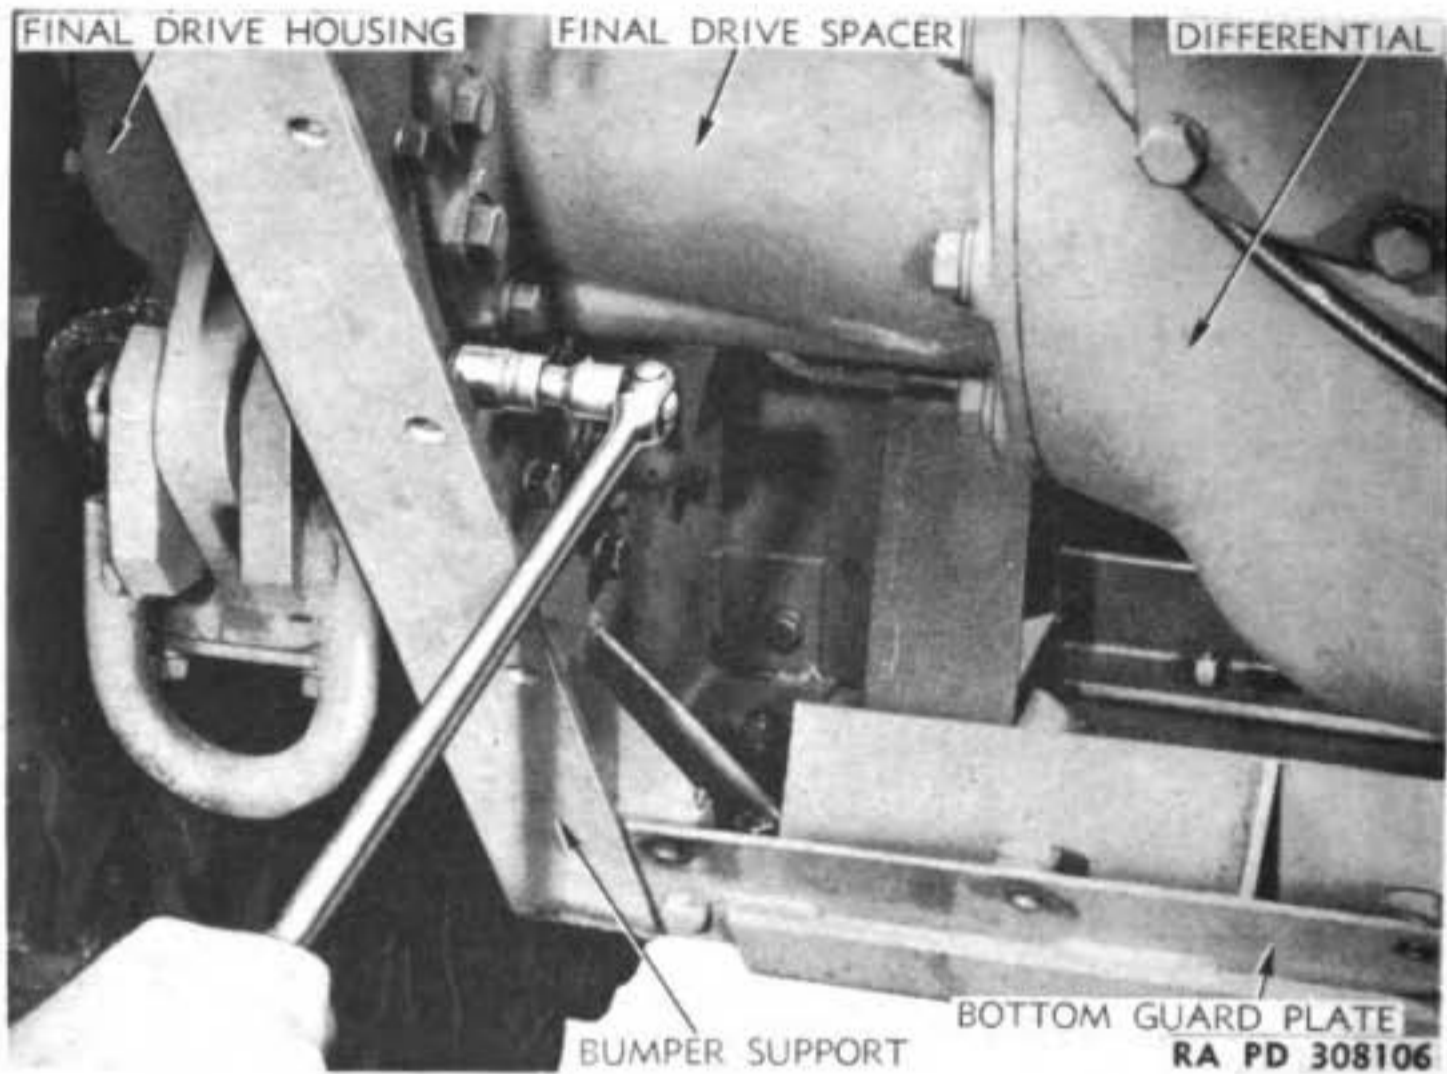
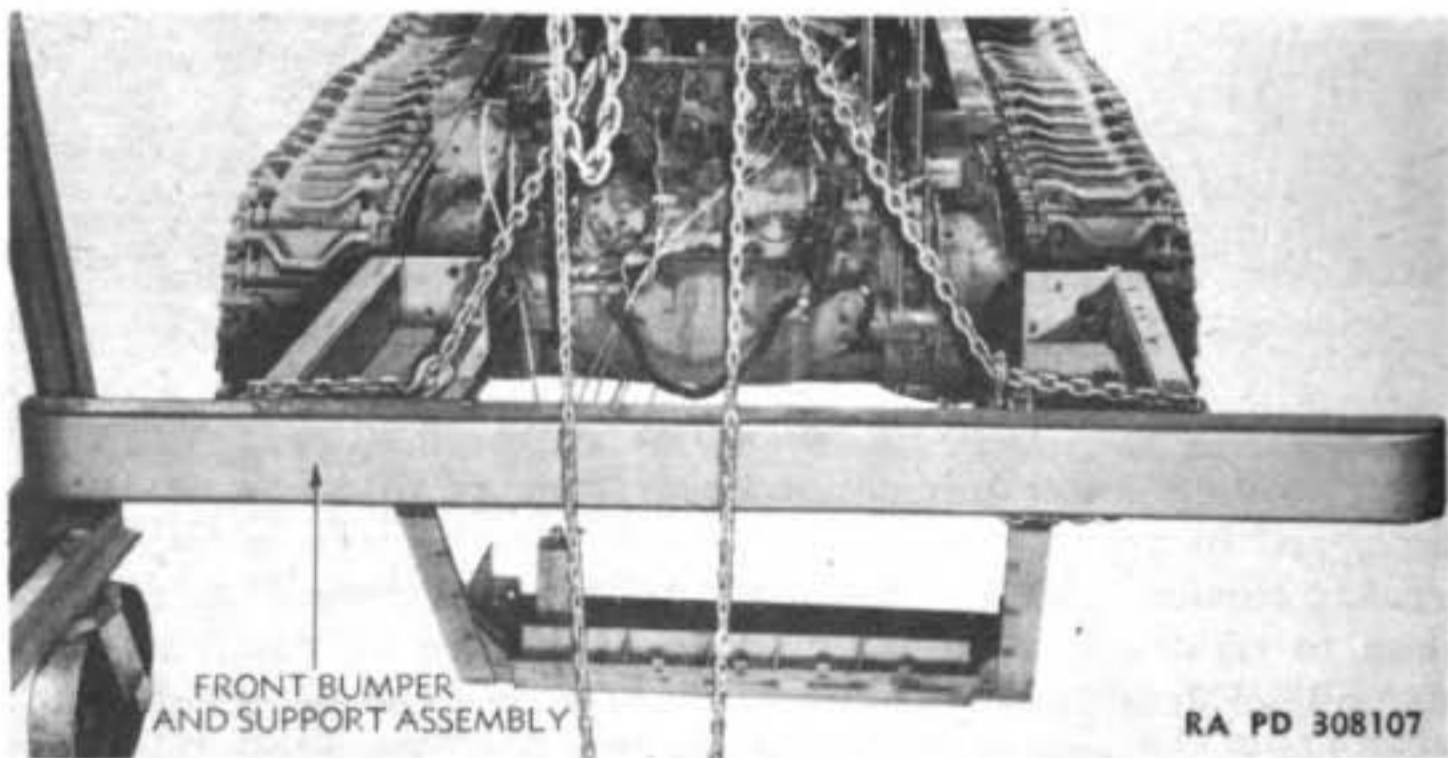

Figure 6 – Disconnecting Bumper Supports From Final Drive Housing
Figure 7 – Front Bumper and Support Assembly Removed
supports and front hull posts by working through opening made by removal of front guard plate. Remove cap screws attaching sides of bumper supports to final drive housings (fig. 6). Attach hoist with chain (fig. 7) to support weight of assembly, then remove the seven bolts holding bottom guard plate to bottom of hull and remove the bumper and bumper support assembly from tractor.
c. Install Front Bumper and Support Assembly. Lift assembly with chain hoist and maneuver it into position over final drive spacers (fig. 7), at same time entering winch clutch rod through hole in bumper support. Install three bolts to attach each bumper support
to upper end of front post of hull. Do not tighten these bolts as all bolts and cap screws must be installed before any are tightened. Use lock washers on all bolts and cap screws. Install seven bolts to attach bottom plate to front bottom rail of hull. These seven bolts are to be installed from the bottom with nuts and lock washers inside the hull. Install cap screws to attach bumper supports to final drive housings (fig. 6). Install two cap screws in bottom of supports and bottom of front hull posts. Tighten all bolts and remove chain hoist. Install clutch pedal stop with two bolts with lock washers. Connect winch control rod to lever on left fender with yoke pin and cotter pin.